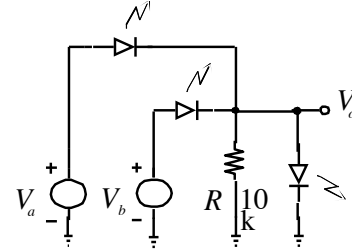

Figure 2.1: Diode logic gate
- E1.** Build the diode logic gate of Fig. 2.1 using red LEDs for the diodes and a resistor value in the range of 10 - 20 k Ω . The longer pin is the anode of the LED. Draw the truth table of the logic gate using +4 V as TRUE and 0 V as FALSE. Set the current limit of the power supply to be 150 mA. What Boolean function does this logic gate implement? (If the LEDs are not bright enough, slowly increase the voltage up to 5 V.)